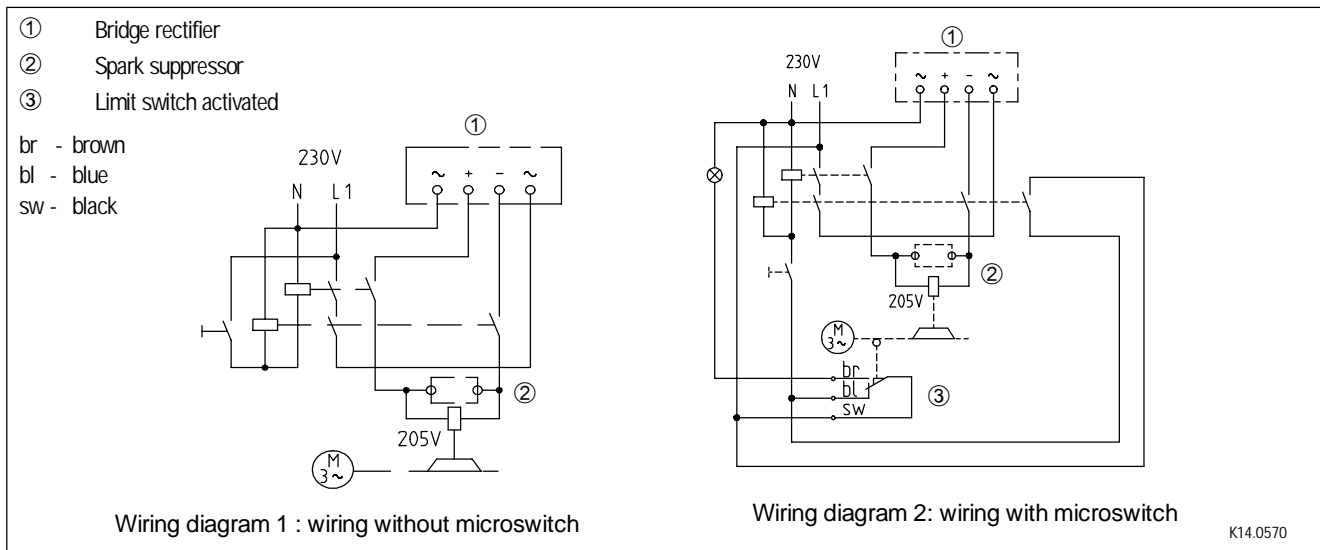

FIG 13 Electrical wiring of a 205V brake
2. Compare stator (7) coil voltage with the DC voltage of the rectifier installed.
3. Select an applicable wiring diagram (FIG 13). Convert deviant AC voltage, e.g. in a 380 V bridge rectifier, as below.